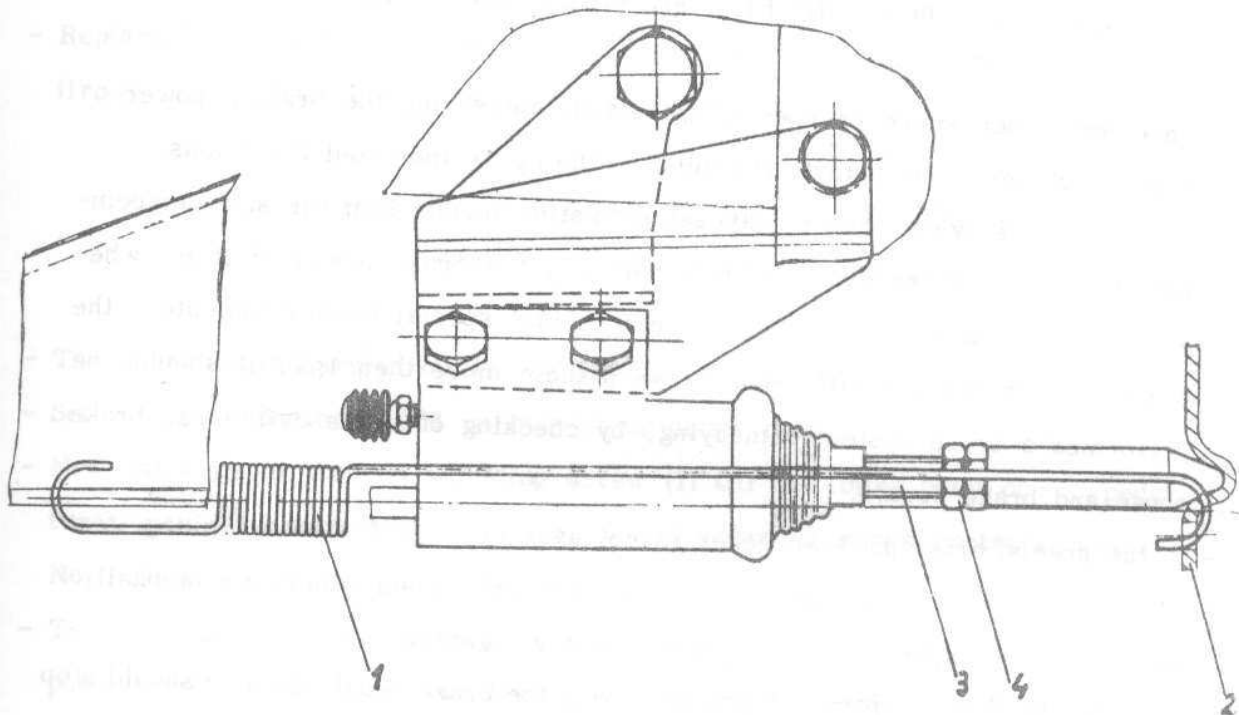

Fig. 2.37. CLUTCH CONTROL MECHANISM
- Having access from the car bottom side, performe bleeding hydraulic clutch control system (see fig. 2.37), in the same manner as on changing fluid in the brake control system, according to Op. 2.0.35.04.1.
#### OP. 2.0.01.22.1 ADJUSTING THROWOUT BEARING CLEARANCE OF ARO L-25 ENGINE (see fig. 2.37)